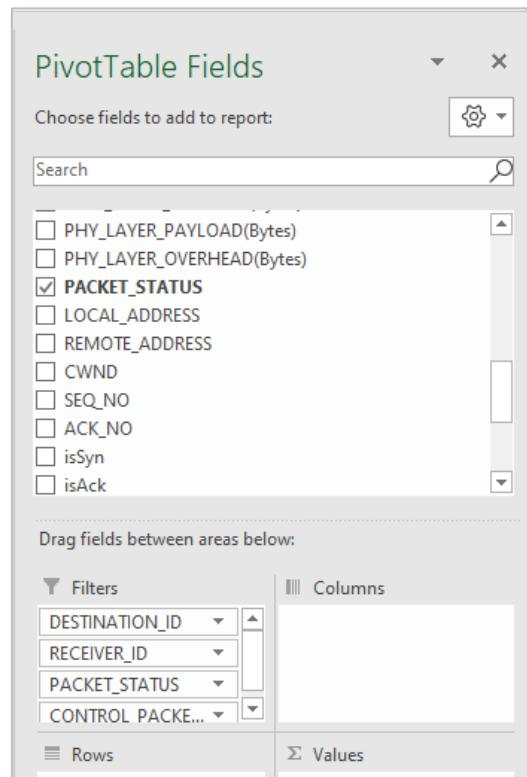

Figure 8-40: Added Selected fields to Filter
- Drag and drop DESTINATION_ID, RECEIVER_ID, PACKET_STATUS and CONTROL_PACKET_TYPE/APP_NAME to FILTERS field shown below Figure 8-40.